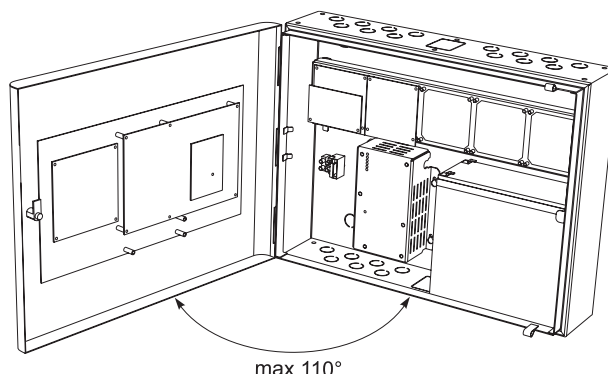

Figure 7B
- Open the front cover. **Attention:** The cover is mounted to the box bottom with hinges fixed with dismountable rivets. The angle of opening of the front cover must not be greater than 110° - Figure 7B!